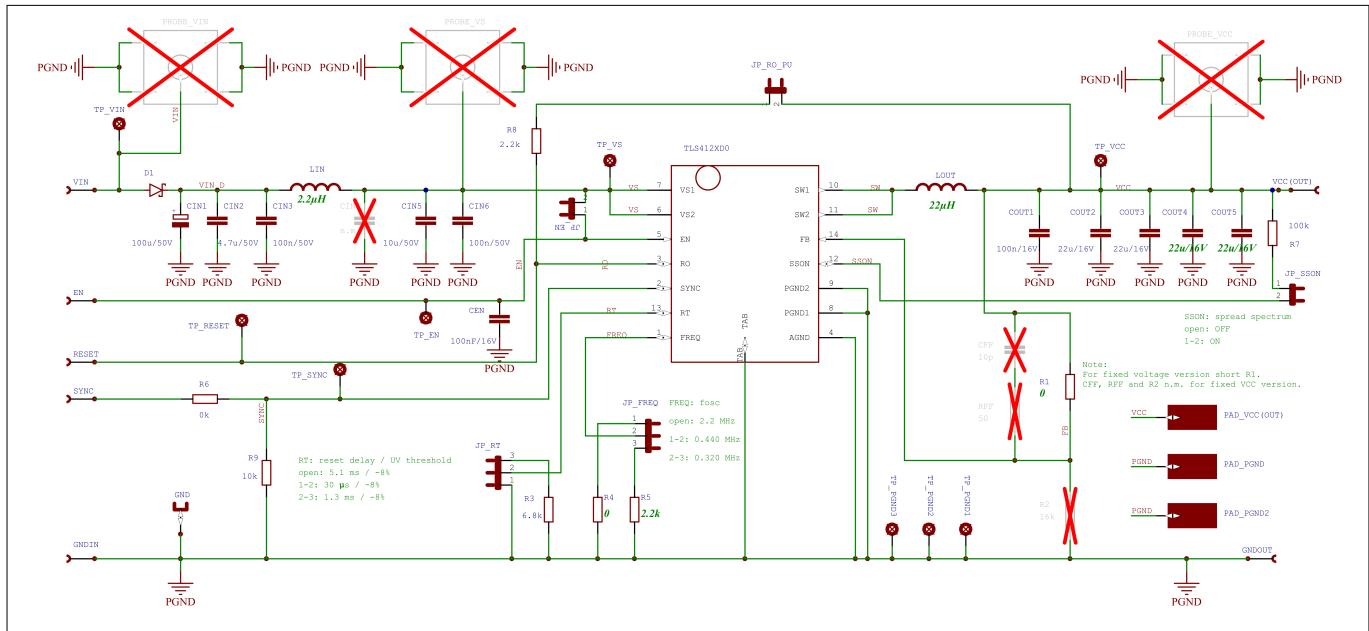

Figure 14 Schematic for fixed output voltage variants in LF configuration
- fixed output voltage variants TLS412xD0EPVxx in LF configuration, see Figure 14